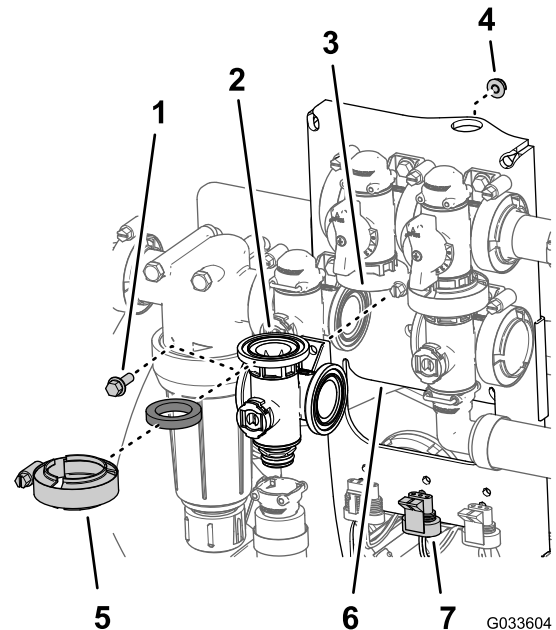

Figure 127
1. Align the flange of the agitation-valve manifold, a gasket, and the flange of the agitation bypass valve (Figure 127).
9. Assemble the agitation valve to the valve mount with the flanged-head bolt and flanged locknut (Figure 127) that you removed in step 3 of Removing the Agitation Manifold Valve (page 80) and torque the nut and bolt to 10 to 12 N·m (90 to 110 in-lb).